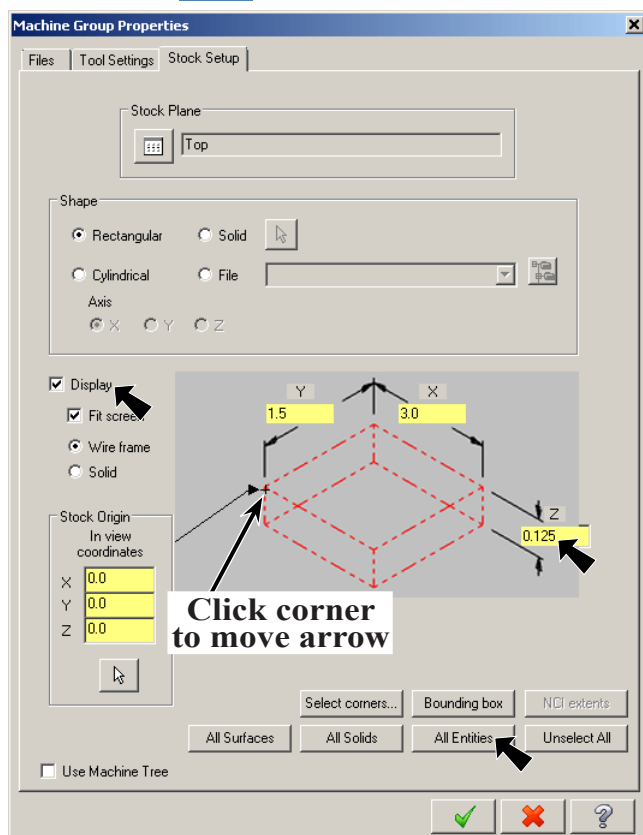

Fig. 2
- Step 7. Click **left front top corner** of the stock to move the origin, **Fig. 2**. After you click corner the arrow will point to corner.
- Step 8. Click **All Entities box** button in the Stock Setup dialog box, **Fig. 2**.
- Step 9. Set **Z dimension .125**, **Fig. 2**.
- Step 10. Confirm **Display** check box is checked, **Fig. 2**.
- Step 11. Click OK  in Machine Group Properties, **Fig. 2**.